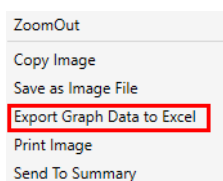

Figure 134. Option menu
- 1 Right-click anywhere on a chart or **Plate Map** to display an option menu and select **Export Graph Data to Excel**. (See Figure 134.)